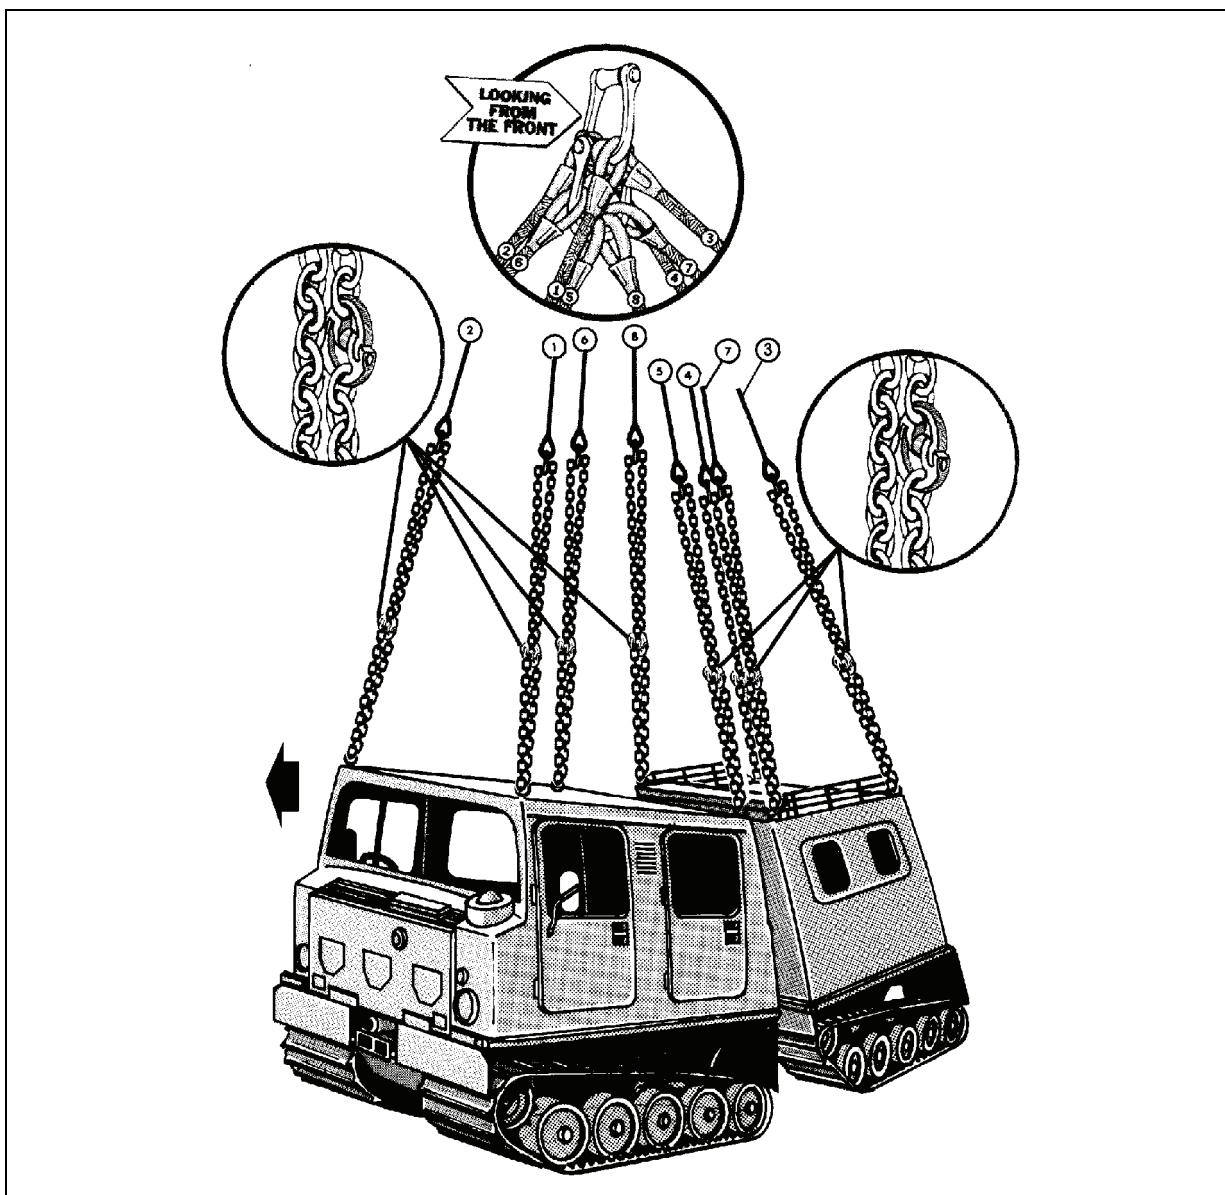

Figure 5-1. Small Unit Support Vehicle
- **Rigging.** Rig the load according to the steps in Figure 5-1.